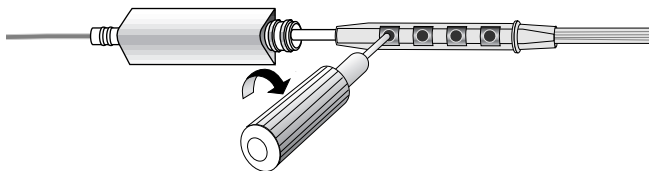

Figure 15. Tighten setscrews (winged boot shown).
3. Tighten each of the four setscrews with the hex wrench clockwise until resistance is felt (Figure 15). Continue tightening to a maximum of 1/4 turn. The setscrews must contact the lead connector sleeves for proper electrical connection.